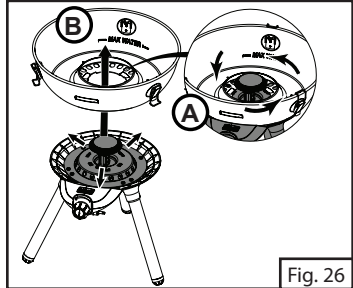

Fig. 26
5. Remove the water pan by turning counterclockwise (Fig. 26-A) until it releases from the burner base (Fig. 26-B).